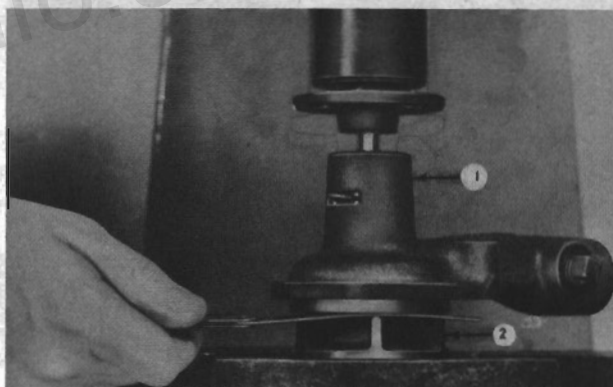

FIG. 4
In reassembly, a new fan hub is used to insure a tight fit on the shaft. Press the fan hub on the shaft so it is flush with the end of the shaft. Insert the shaft in the housing and install the bearing lock ring. Then install the new seal assembly in the impeller and press the impeller on the shaft. There should be .015" to .031" (0.38 mm. to 0.79 mm.) clearance between the impeller (2, Fig. 4) and the housing (1). Rotate the shaft when checking the clearance.